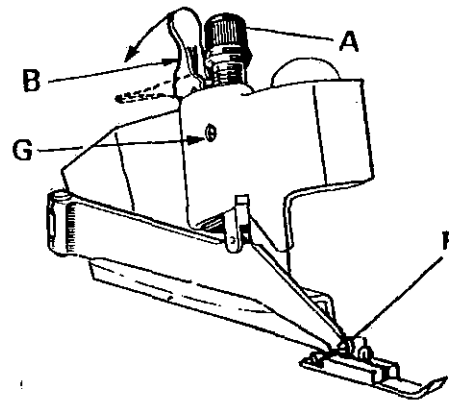

fig. 22
4. Press lever B right down. (fig.22)
**c) Positioning and adjusting presserfoot pressure (fig. 22)**